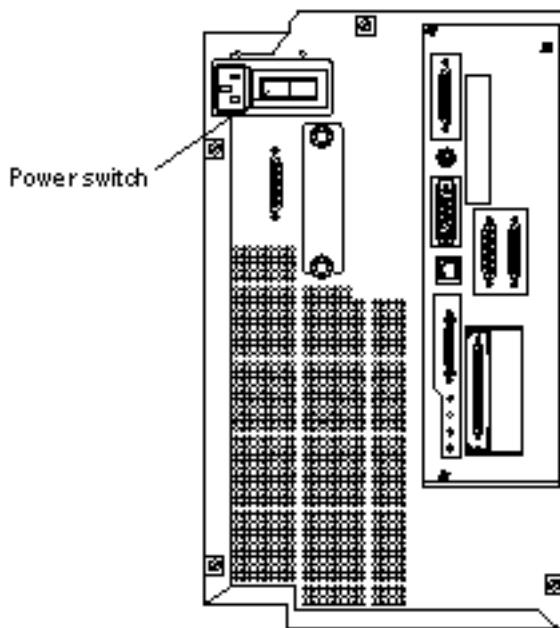

Figure 1-9 Powering On the Netra 150 Server
12. Turn the power switch at the rear of the Netra 150 server to the ON ( ) position (Figure 1-9).